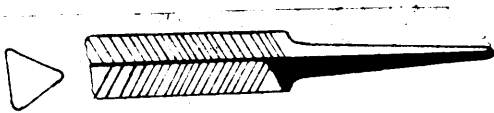

Figure 4.
2. Triangular, Figure 4, and 5.